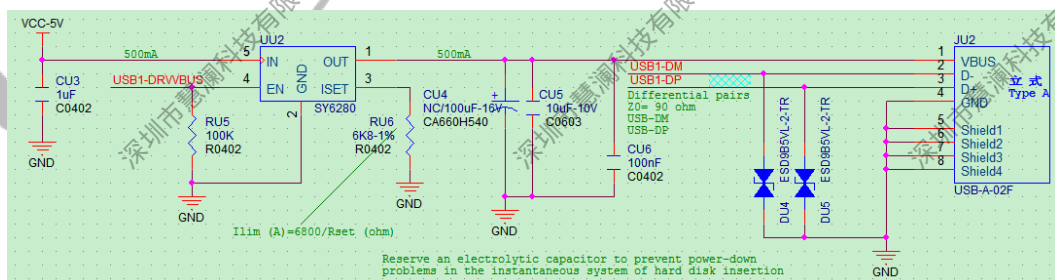

Figure 2-33 USB1 Power Design
- Because the front end contains a 5 V boost IC, the power supply of USB1 comes from the system VCC-5V, and only one current-limiting switch needs to be added. As shown in Figure 2-33.